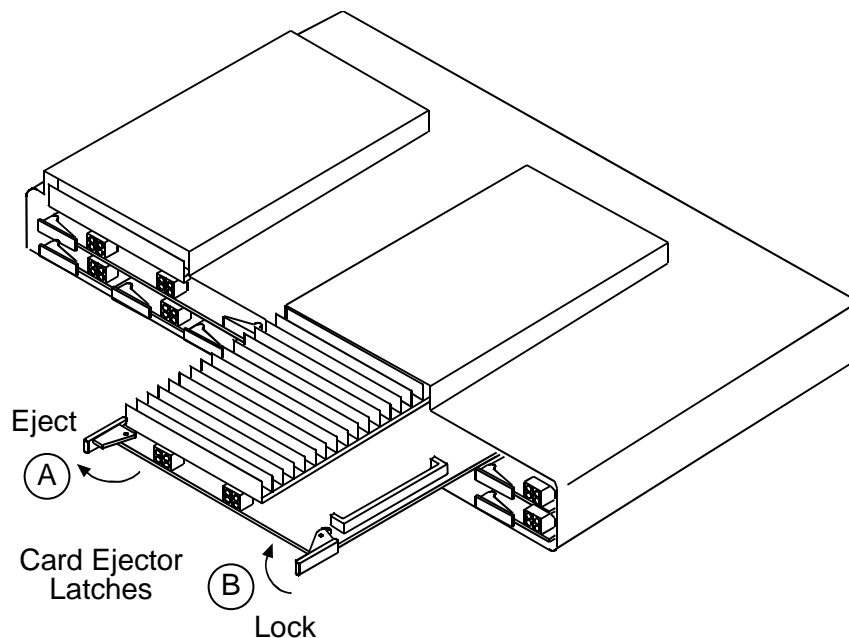

Figure 16-7. Installing and Removing Controller Card
**NOTE:** The example in Figure 16-7 shows installation and removal of Controller B.
3. Straighten card ejector latches (see A in Figure 16-7), position new Controller card in guide rails, and carefully slide into empty card slot.
4. Press card ejector latches in toward center of card (see B in Figure 16-7) until card connector mates with backplane connector.
1. On old standby Controller card, press ejector latches in toward outside of card until card connector releases with backplane connector (see Figure 16-7).